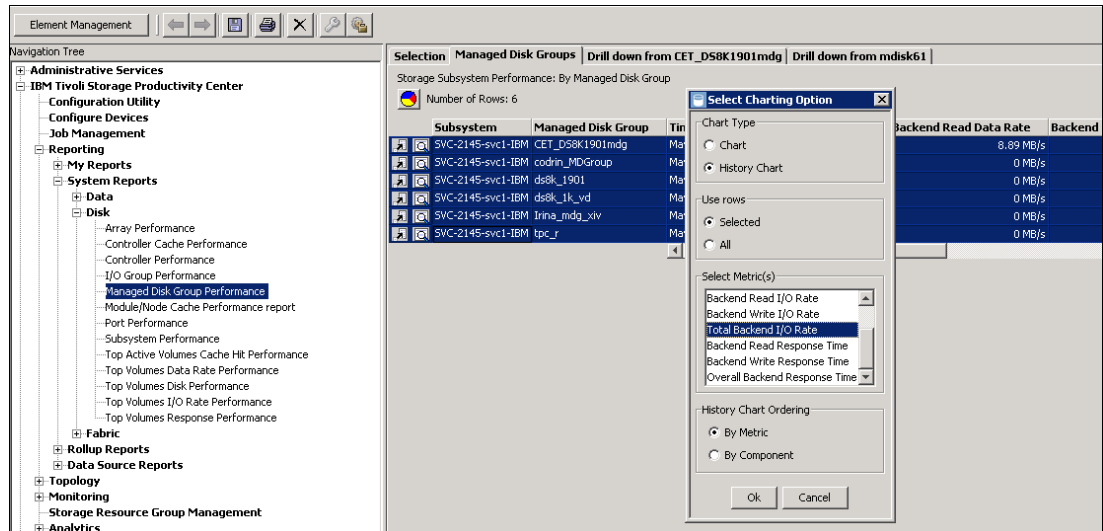

Figure 13-62 Managed disk group I/O rate selection for SAN Volume Controller
2. In the Select Charting Option window (see Figure 13-62), select **Total Backend I/O Rate**. Then, click **OK**.